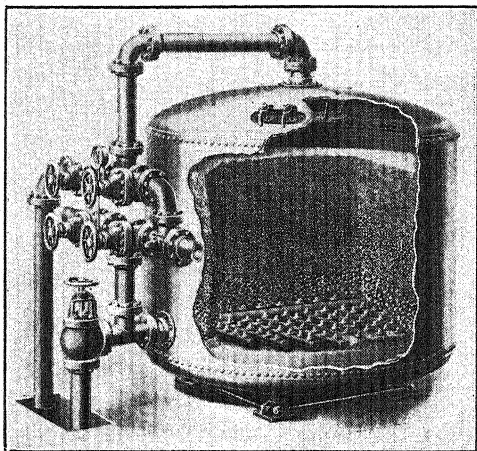

FIG. 88. — Water softener, using artificial zeolite.
**112. How Hard Waters Are Softened.** The chemistry of softening hard waters will be more fully discussed in a later chapter. Some common methods are mentioned briefly: (1) Waters which have "temporary hardness" are softened by boiling, or by adding *slaked lime* to precipitate the bicarbonates which cause the hardness. The precipitate is then allowed to settle. (2) *Washing soda* ( $\text{Na}_2\text{CO}_3$ ) is one of the cheapest and most efficient of the commercial water softeners. *Borax* is used on a small scale but it is too expensive for extensive commercial use. (3) *Tri-sodium phosphate* is coming into use. (4) Such substances as graphite, tannin, glue, etc., are added to water so the scale formed in boilers will be softer and more easily removed. They do not remove the hardness, but find use as "boiler compounds" because they mix with the scale and make it soft enough to be removed by scraping or to be blown off as a sludge by the use of steam pressure. (5) *Zeolite softeners* are now extensively used. Some natural minerals, sodium silico-aluminates, will exchange their sodium for the calcium or magnesium in a hard water as the water flows over them, or stands in contact with them. Several different companies are now manufacturing such minerals in granular form for softening water by filtration. They are used under such names as "duro," "decalso," and "permutit." Figure 88 shows a tank packed with granular permutit for use in softening water by filtering the water through it. The word equation for the reaction follows: